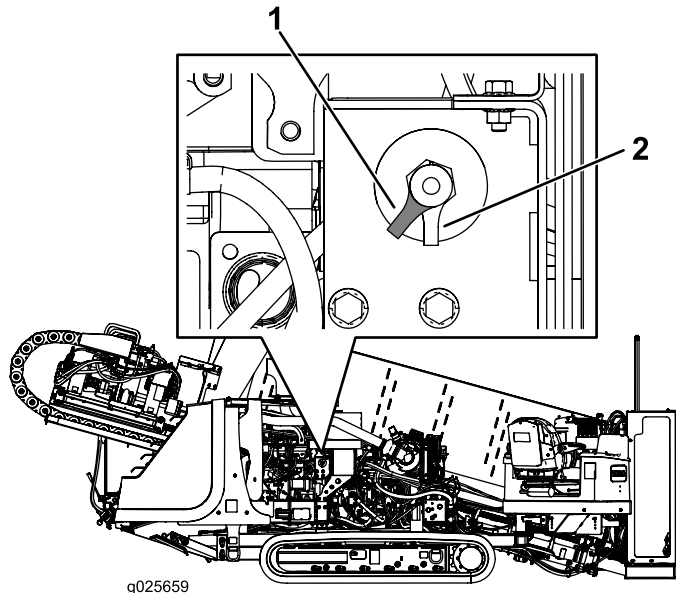

Figure 50
- To energize the machine electrically, rotate the battery-disconnect switch clockwise to the On position (Figure 50).
- To de-energize the machine electrically, rotate the battery-disconnect switch counterclockwise to the Off position (Figure 50).